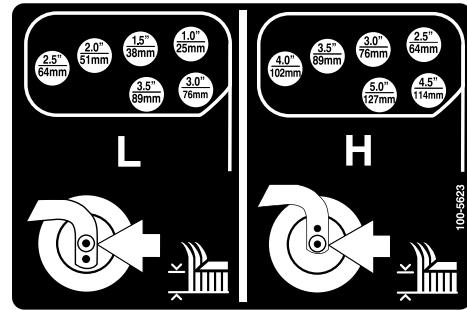
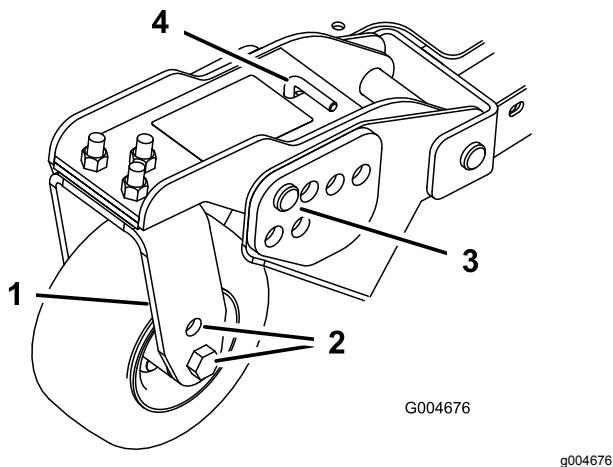

Figure 25
Figure 24
- Position the castor wheel axles in the same holes in all of the castor forks (Figure 22 and Figure 24). Refer to the following chart to determine the correct hole for the setting.
- Remove the hairpin cotter and clevis pins from the castor pivot arms (Figure 24).
- Rotate tension rod to raise or lower pivot arm until holes are aligned with selected height-of-cut bracket holes in the cutting unit frame (Figure 24 and Figure 25).